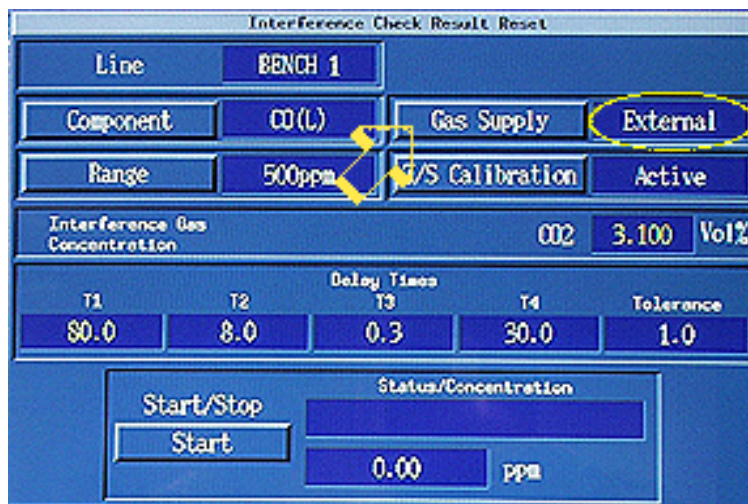

Figure 12
- 110 Verify that the field to the right of the “Gas Supply” button contains “External.” If not, click on the “Gas Supply” button (see Figure 12) and from menu items that appear below the button, click on “External.” See the circle in Figure 12.